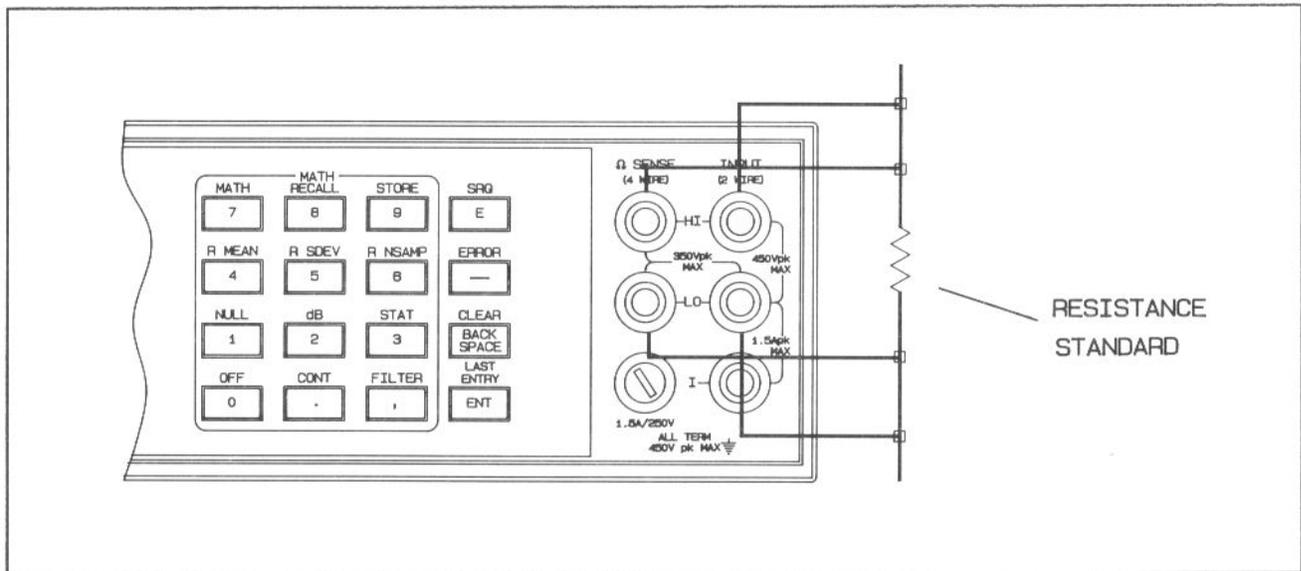

Figure 5-2. Input Connections for 4-Wire Ohms Gain Calibration
- b. Set the Resistance Standard to 30 MOhms and connect it to the HP 3457A front panel HI and LO Input terminals and Ω Sense HI and LO terminals as shown in Figure 5-2.